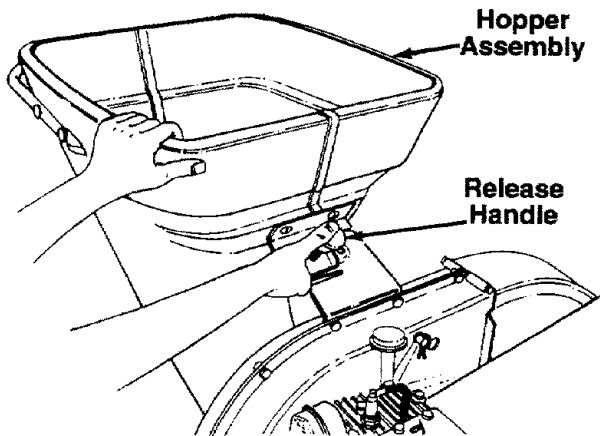

FIGURE 8.
- To lower the hopper assembly to the ground, use one hand to grasp the top of the hopper assembly. Push down on the release handle, and pivot the hopper assembly to the right. See figure 8.